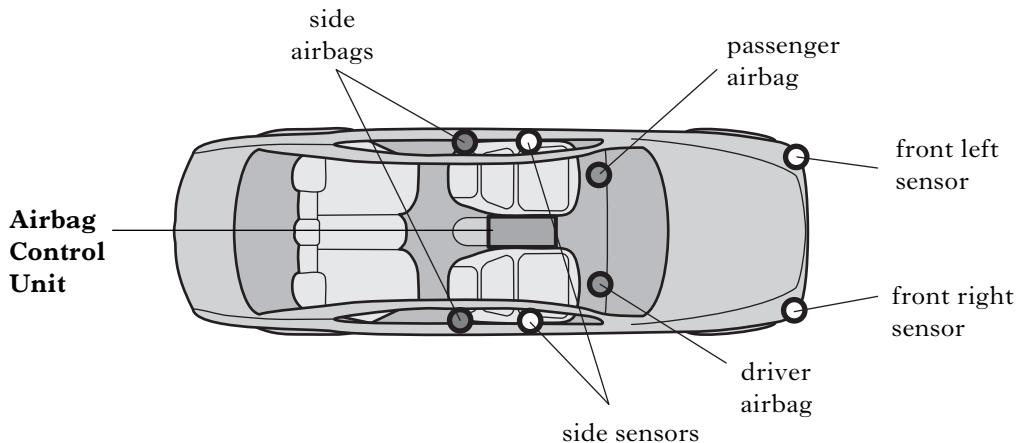

Figure Q9(a)
9. An airbag safety system for a vehicle is shown in Figure Q9(a).